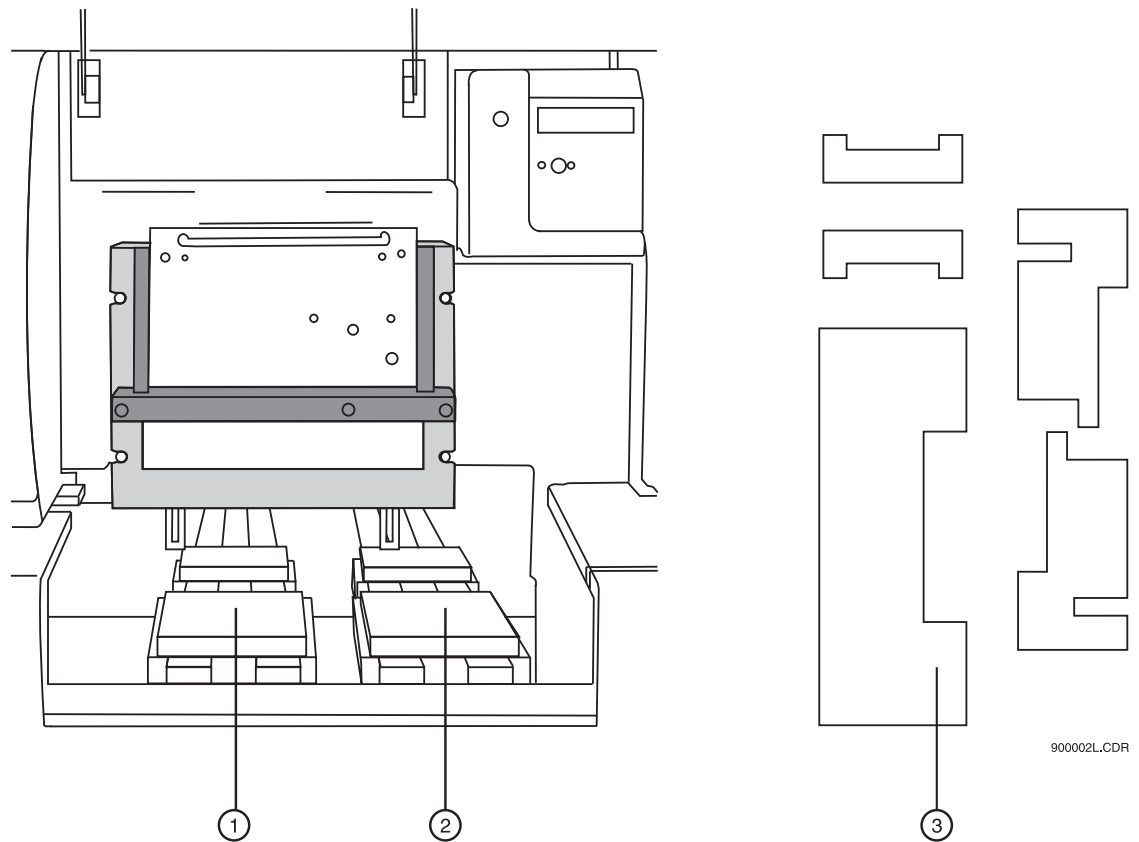

Figure 3.1 Location of Interlocking Devices Used During Shipping
2. Remove five interlocking devices from the carriage assemblies. Lift the carriage assemblies to one side to remove the foam inserts beneath each assembly. Refer to Figure 3.1.